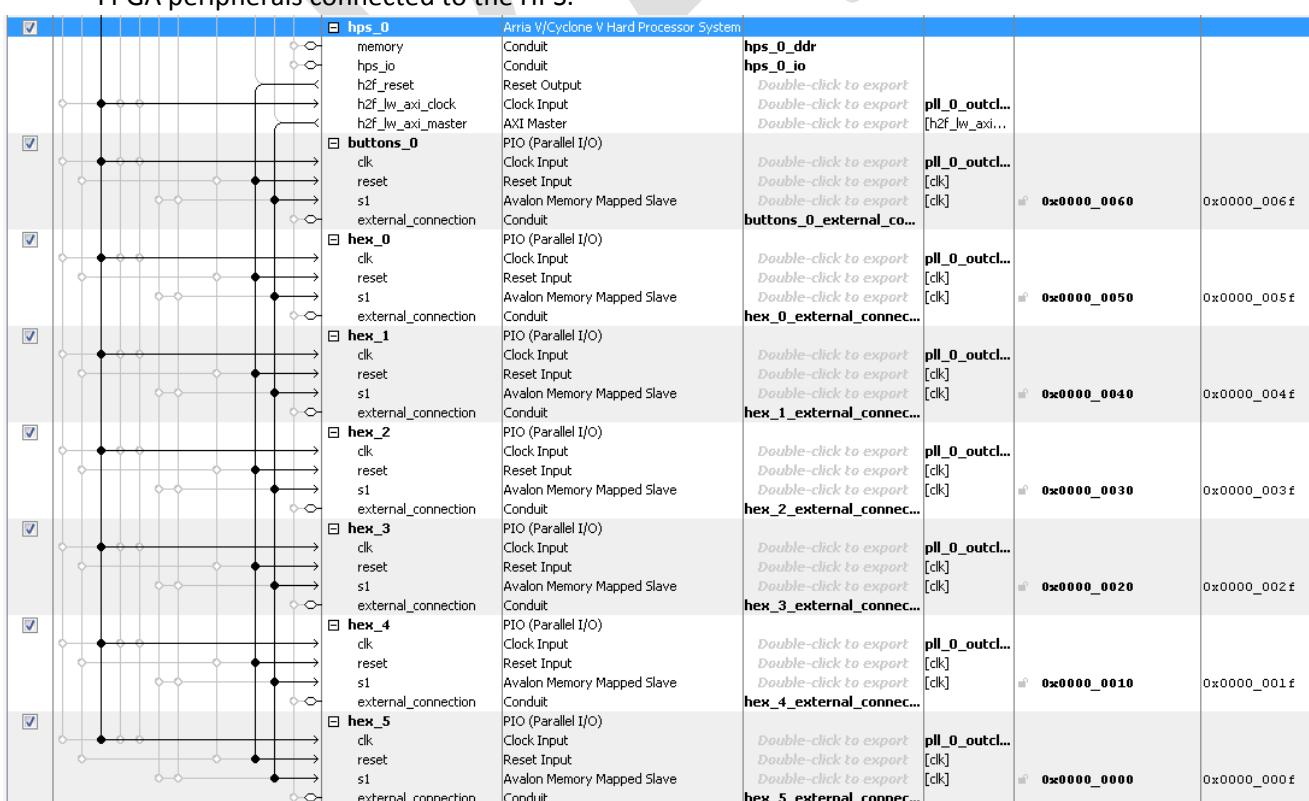

Figure 8-10. Adding Buttons and 7-segment Displays to the Lightweight HPS-to-FPGA Bridge
25. Connect the system as shown in Figure 8-10 below (we don't show the full system to make figures hold on one page). Notice that we use “hps_0.h2f_reset” as the reset signal for the components connected to the HPS. This is a design choice so we can separately reset FPGA-only peripherals, and FPGA peripherals connected to the HPS.